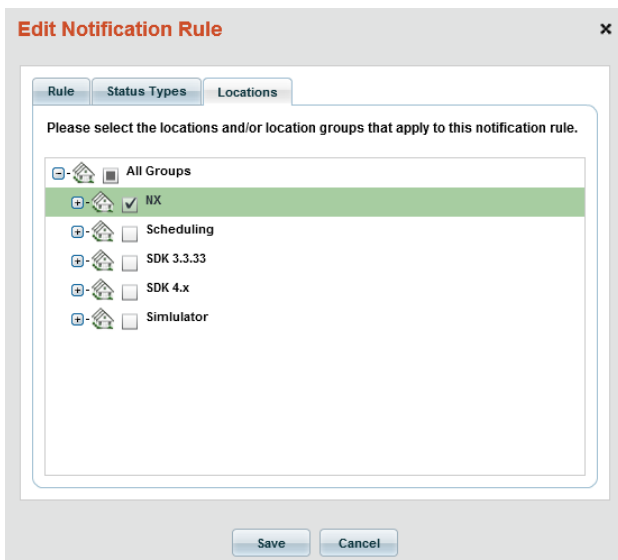

FIG. 142 Edit Notification Rule dialog - Locations tab
5. In the **Locations** tab (FIG. 142), select the Location Groups / Locations that apply to this Notification Rule.